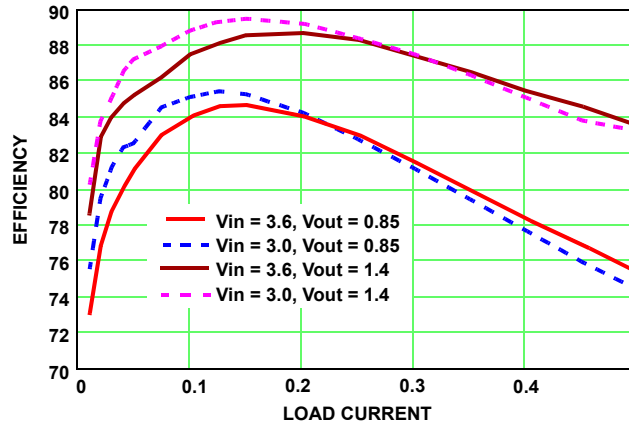

FIGURE 3. SWITCHING FREQUENCY REGULATION
Upon application of input power to the ISL6271, the power good signal (PGOOD) will switch from low to high after four conditions are met - (1) VCC exceeds the power on reset "rising threshold", (2) the EN pin is high and (3) the LDO input voltage (LVCC) is greater than 1.6V, (4) All three outputs are in regulation. Figure 3 illustrates this start-up sequence. The outputs are powered on under a soft-start regime with the core output voltage defaulting to 1.3V (unless under VID control) and the LDOs at their fixed output levels. Once the outputs are in regulation, the ISL6271 will respond to a voltage change command via the I2C bus.